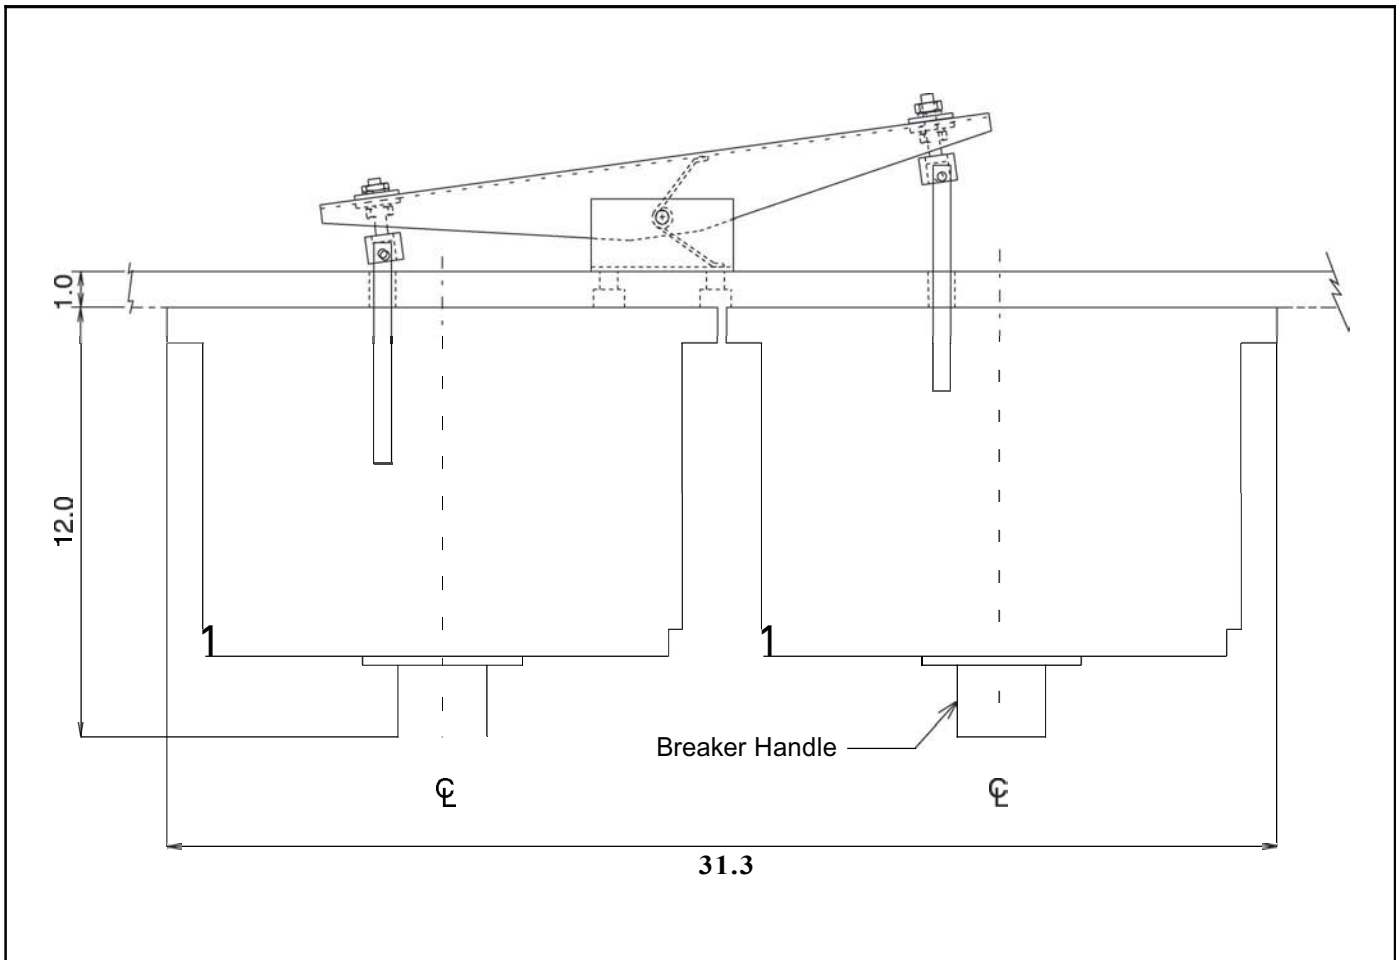

Fig. 2-2 Top View of Walking Beam Assembly
- 2-2. Install the walking beam assembly to the panel using 3/8 inch hardware per Figure 2-2. A one inch panel is illustrated; a thinner panel is not recommended because, sufficient thickness is needed in order to recess the bolt heads to allow the breakers to be mounted properly.